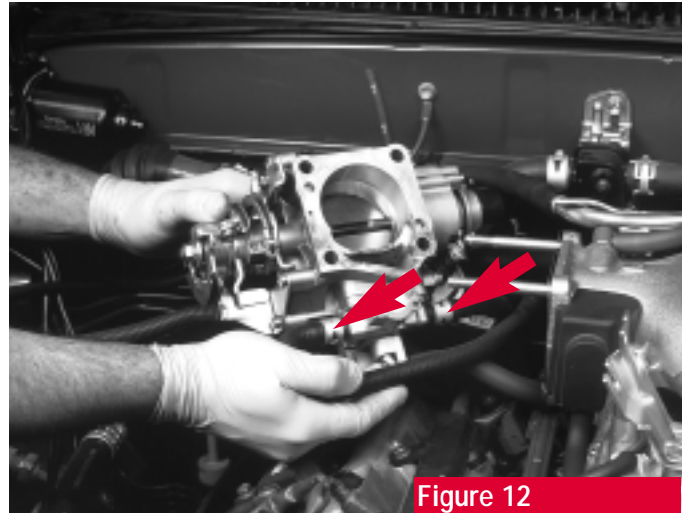

Figure 12
15. Remove vacuum lines from the throttle body but **don't remove the two coolant hoses (figure 12)**.
*TIP: The coolant hoses have clamps (see arrows, figure 12), the vacuum hoses do not.*